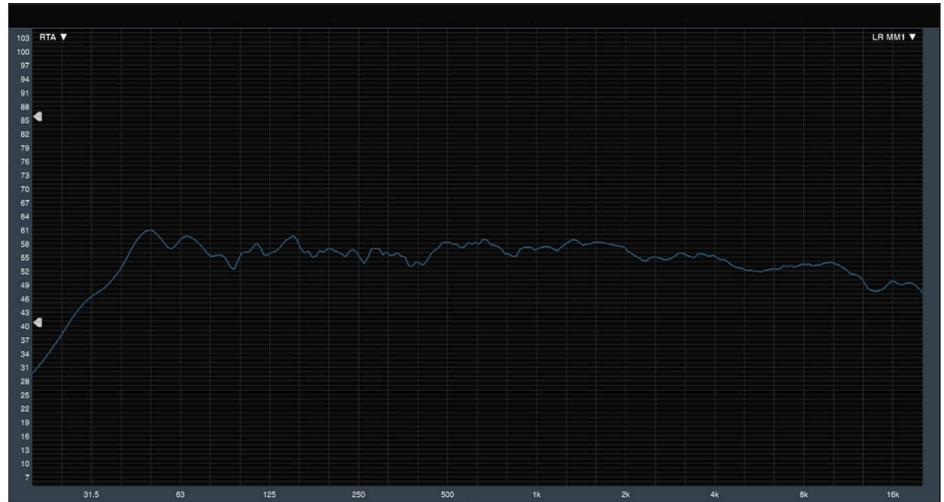

FIGURE 20
- The image below (Figure 20) shows Left/Right Screen channels before adding any EQ other than the anechoic correction (speaker tuning).